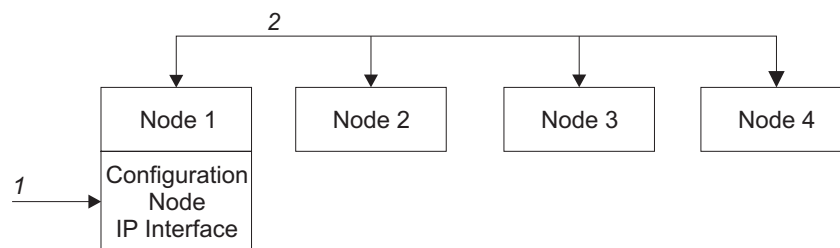

Figure 8. Configuration node
Figure 8 shows an example cluster containing four nodes. Node 1 has been designated the configuration node. User requests (1) are targeted at Node 1. This can cause requests that are targeted at the other nodes in the cluster to have their data returned to Node 1.